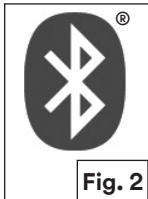

Fig. 2
- a. Press – button until the GRIND or CUT mode indicator blinks. Then press – and + button simultaneously, the TAP indicator will flash together with the selected GRIND or CUT mode indicator to enter the HAPTIC TAP function (Fig 1a). Haptic tap is now enabled. Tapping on the shield 3 times in a quick tempo will cause the welding filter to change between the selected GRIND or CUT mode and the selected welding shade number (Fig. 2). The TAP indicator will flash upon tapping, tap in a moderate pace until either the GRIND, CUT or SHADE indicator flashes. When TAP mode is enabled, changes can be done between GRIND and CUT as well as changes between shade numbers. To disable haptic tap, make sure that the welding filter is set in GRIND or CUT Mode, press – and + button simultaneously. To check if Haptic tap is disabled, select GRIND or CUT mode, TAP indicator will not flash in any of those modes.